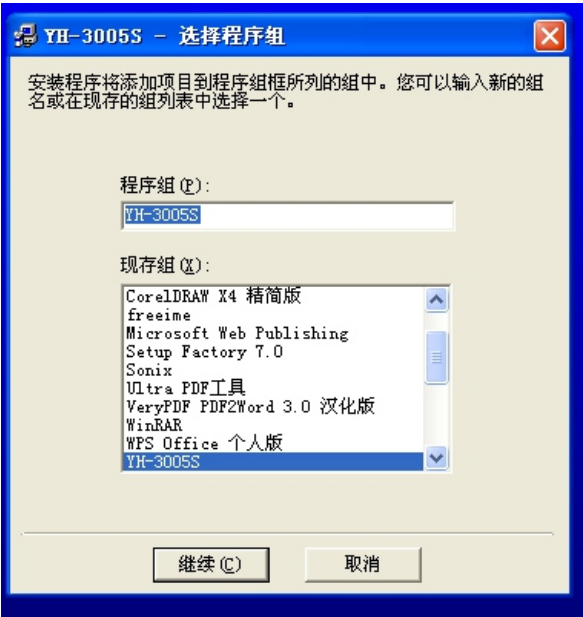

Figure 4
4. Enter interface as figure 4, click continue.